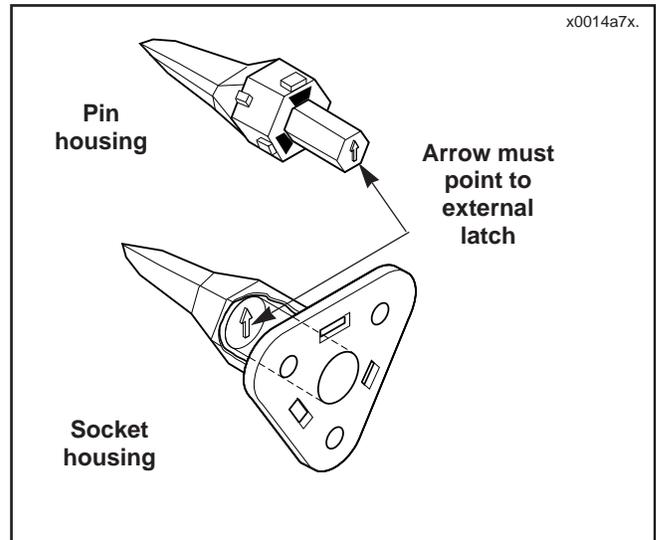

Figure 13. Secondary Lock Positioning
3. See Figure 13. Install secondary lock with arrow positioned as shown.